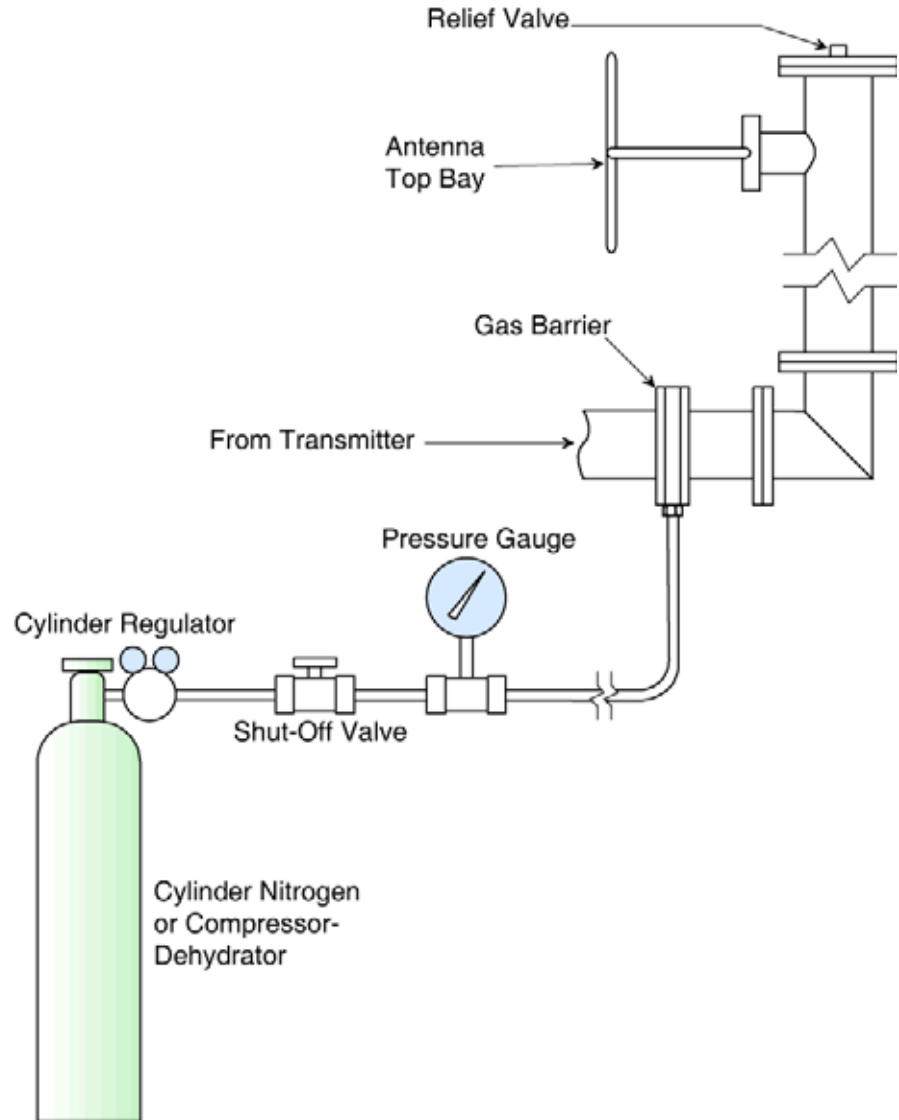

Figure 14. Pressurized Gas Schematic
- a. Connect a source of dry gas (cylinder nitrogen or air from a compressor-dehydrator) to the system as shown in Figure 14 on page 23.
- c. Pressurize the system to eight (8) psig, then close the shutoff valve. Give the system one half hour to stabilize, then record the pressure and the temperature.
- g. Connect a source of dry gas (cylinder nitrogen or air from a compressor-dehydrator) to the system as shown in Figure 14.